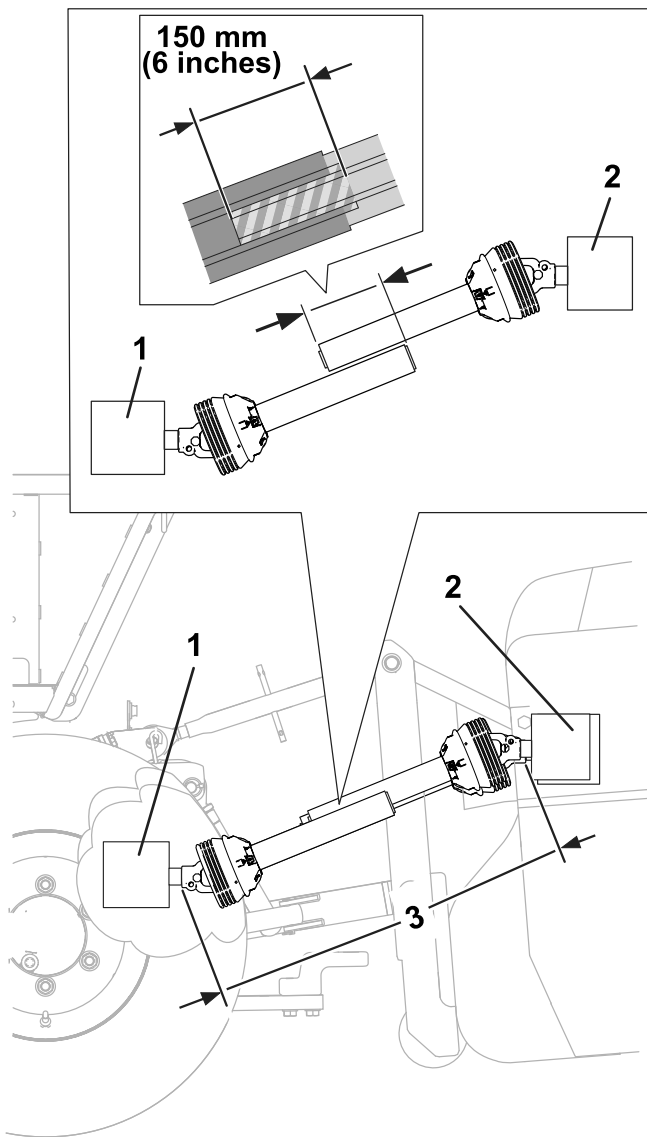

Figure 16
10. Raise the attachment to the position where the traction-unit PTO output shaft and gearbox input shaft are furthest apart (Figure 16).
11. Hold the driveshaft sections parallel to each other and check to ensure that they overlap 150 mm (6 inches) or more (Figure 16).